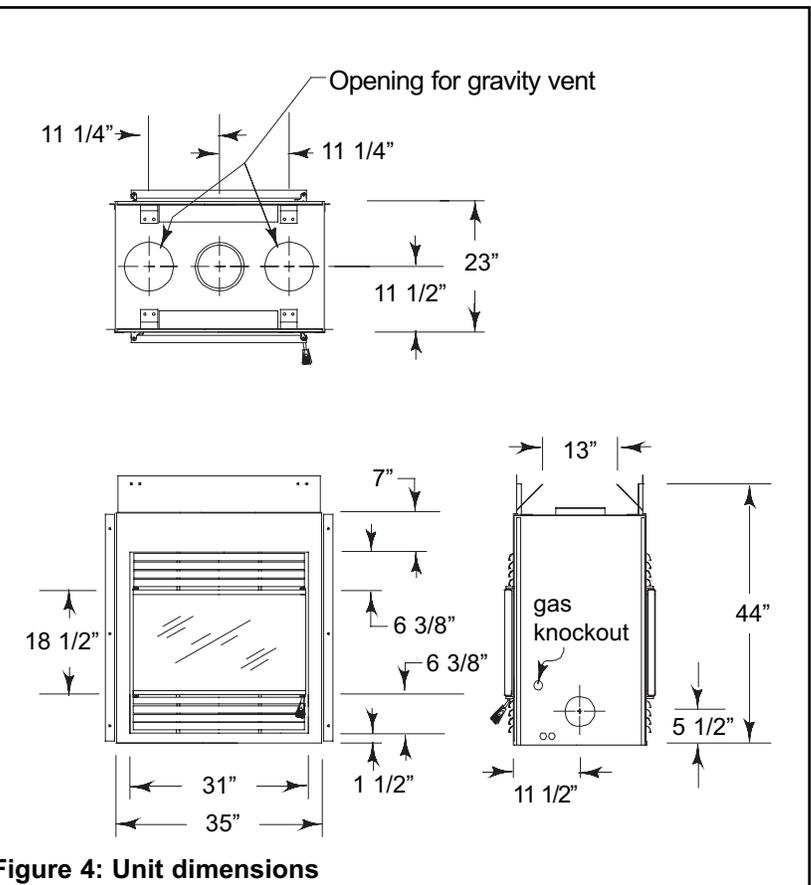

Figure 4: Unit dimensions
2. Frame an area to fit the ORACLE. Follow the framing dimensions on Figure 4.